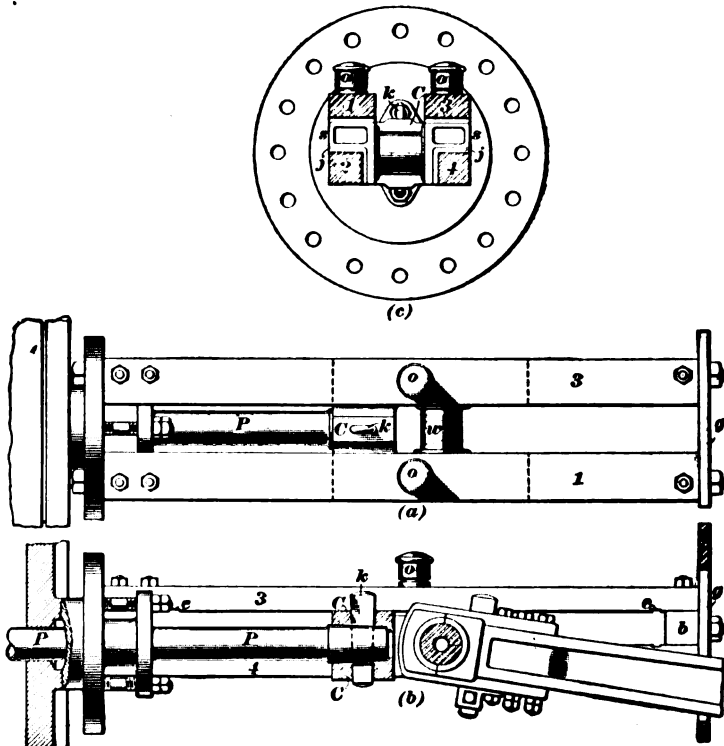

FIG. 23.
24. Several types of crossheads in general use are illustrated in Figs. 23, 24, and 25, in which corresponding parts are
designated by the same letters. Fig. 23 illustrates a type sometimes spoken of as the locomotive crosshead; view (a) is a
The crosshead *C* is made either of iron or steel. In the type shown in Fig. 23, in which four guides 1, 2, 3, 4 are employed, *C* is sometimes cast solid with the wings *s* and wristpin *w*, and is then preferably made of cast steel; or it may be made up in parts, as in the present case, the cross-